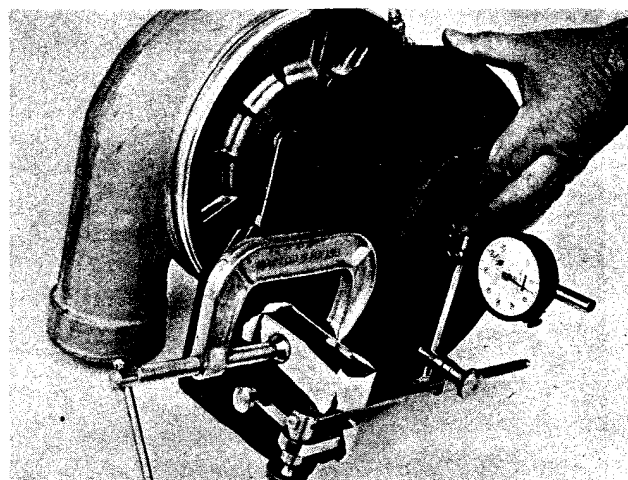

Fig. 2-56, (TA-47). Checking turbocharger end clearance
3. Fasten a dial indicator to the center housing so that the indicator tip rests on the end of the rotating shaft on the compressor side (Fig. 2-56). Move the shaft axially back and forth by hand; the total indicator reading should be 0.004 to 0.009 inch [0.10 to 0.23 mm]. If the total indicator reading exceeds 0.009 inch [0.23 mm], the rotating assembly must be repaired or replaced.